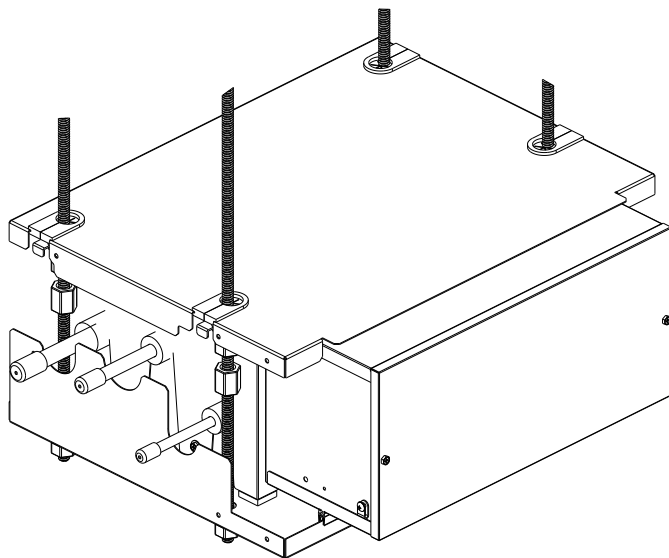

FIGURE F.6
- 1.8** Installation of the top and bottom panels is complete and should match the depiction in Figure F.6.